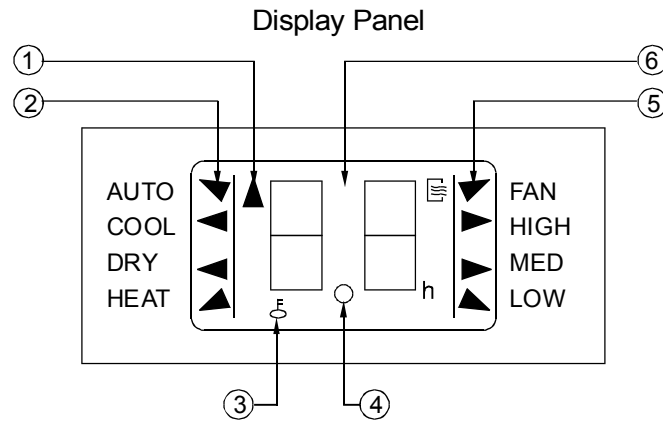

Fig. 2
- ① **TRANSMISSION Indicator:** This indicator lights when remote controller transmits signals to indoor unit.
- ② **MODE Display:** Shows the current operation modes-- AUTO, COOL, DRY and HEAT. HEAT only available for heat pump model.
- ③ **HEAT PUMP ONLY - LOCK display** is displayed by pushing the LOCK button. Push the LOCK button again to clear display.
- ④ **TIMER Display:** This display area shows the settings of TIMER. That is, if only the starting time of operation is set, it will display the TIMER ON. If only the turning off time of operation is set, it will display the TIMER OFF. If both operations are set, it will show TIMER ON OFF which indicates you have chosen to set both the starting time and off time.
- ⑤ **FAN Display:** When the FAN button is pushed, this signal indicator lights.
- ⑥ **Digital Display Area:** This area will show the temperature and, if in the TIMER mode, will show the ON and OFF settings of the TIMER.
**▲ NOTE:** All items are shown in the Fig.2 for the purpose of clear presentation But during the actual operation only the relative functional items are shown on the display panel.